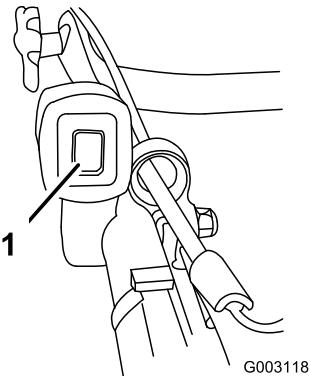

Figure 14
- Push the ignition toggle switch to the On ("I") position (Figure 14).